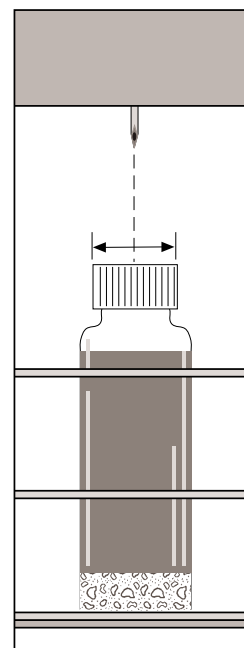

Figure 3.4. Needle Alignment
6. The carousel will advance to the Priority position (pos. 0) and the needle will lower slightly (see Fig. 3.4). The carousel cover must remain on during this step to allow needle movement.
7. Still holding down the [FWD] key, remove the carousel cover and manually rotate the carousel so that the Priority position vial septum is centered directly beneath the needle (see Fig. 3.4).